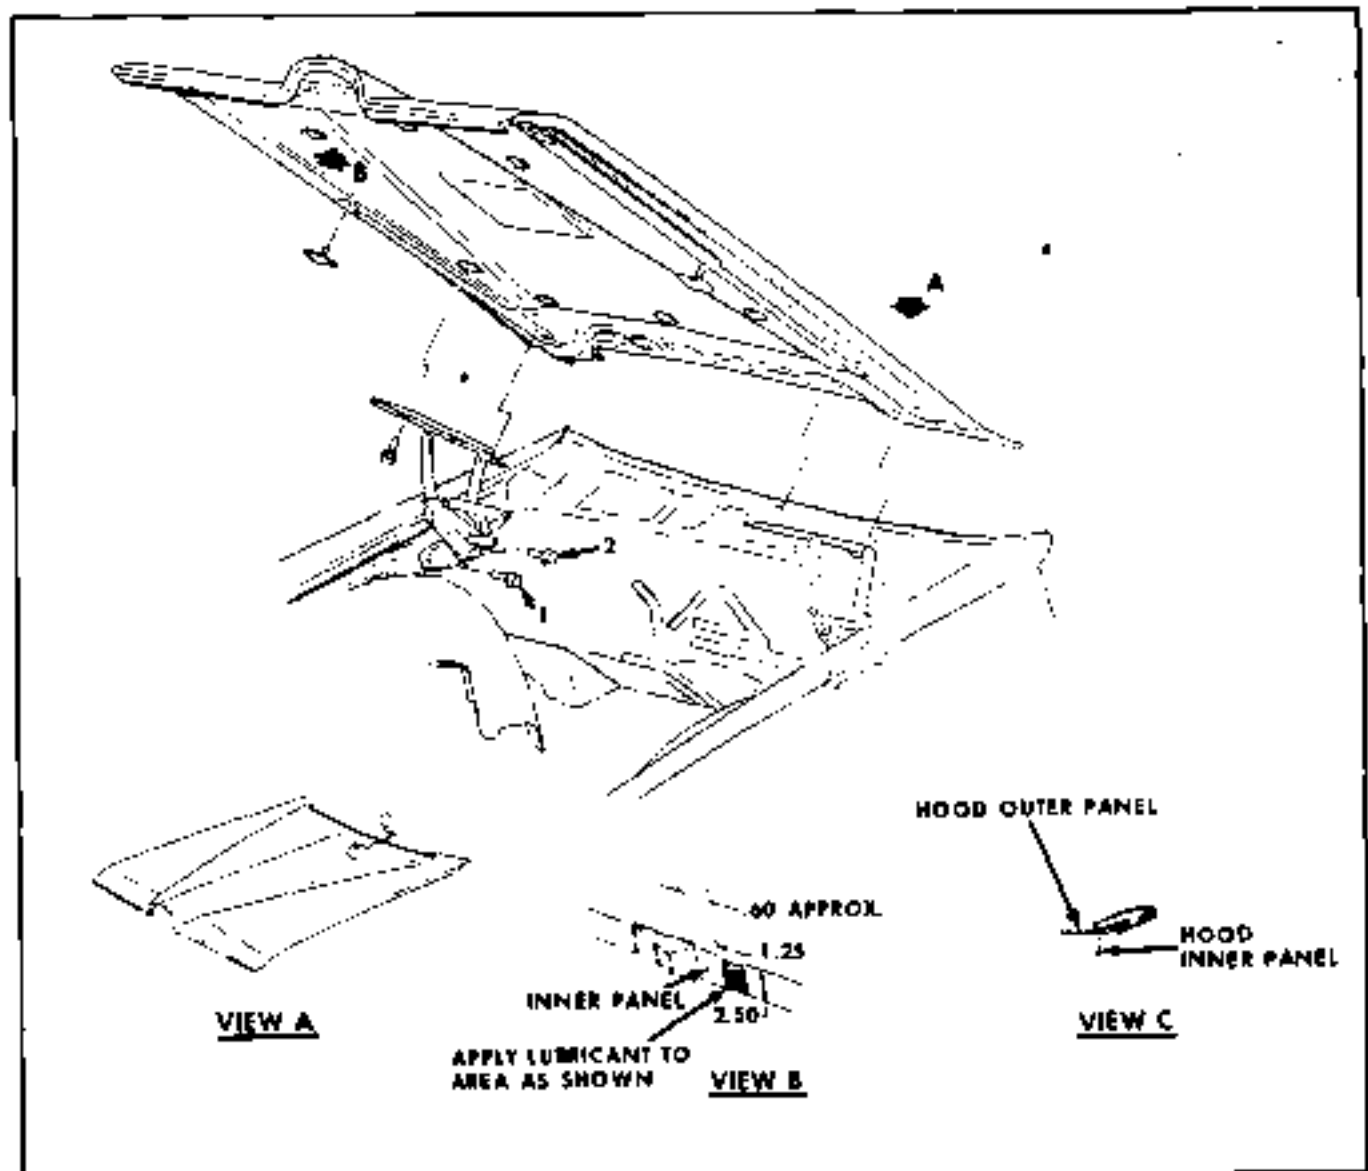

Fig. 11-1 Hood Attachment Typical
The hood (Fig. 11-1), of rigid sheet metal construction, is composed of a single sheet metal outer panel and a rugged inner panel reinforcement. Further rigidity is obtained by the insertion of reinforcement braces and
1. Loosen front end of hinge mounting bracket to fender at bolt no. 1 (Fig. 11-1).
Hood hinges (Fig. 11-1) are mounted to the fender panel. Double assist overcenter springs are used (one at each hinge), one end of which is fastened to the front arm of hinge, the other end to the base plate. This construction provides hold open power. Fore and aft adjustment of hood is provided by slotted holes in the hinge bracket.